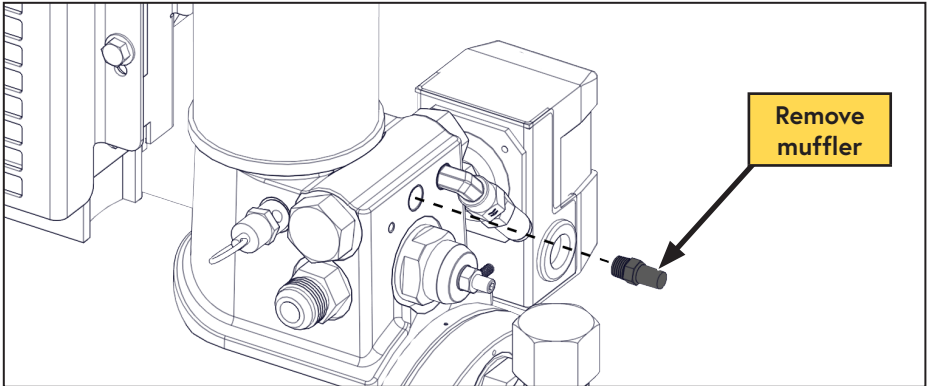

Figure 39 — Remove blowdown muffler
- Remove the blowdown muffler from the side of the WHASP Tank (below the coalescing filter) (Figure 39).